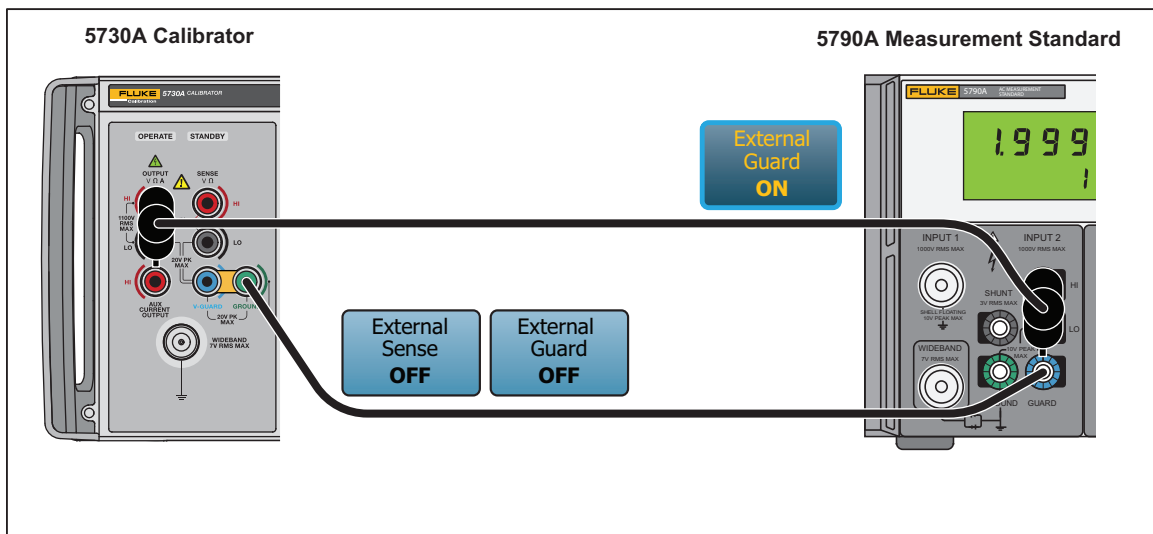

Figure 15. AC Voltage Test Setup
- Place the 5790A on top of the Product and connect the equipment as shown in Figure 15. Other placements of the equipment are fine as long as they can be connected with the 12 inch cable.